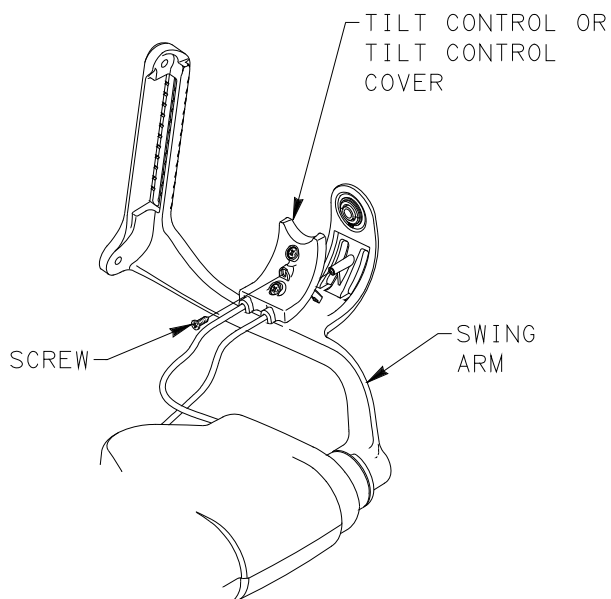

FIGURE 10
6. USING #2 PHILLIPS HEAD SCREWDRIVER, REMOVE AND SET ASIDE SCREW FASTENING TILT CONTROL OR TILT CONTROL COVER (BASIC TILT OPTION) TO SWING ARM. REMOVE TILT CONTROL AND LET HANG. IF CHAIR WAS EQUIPPED WITH BASIC TILT OPTION, SET TILT CONTROL COVER ASIDE. SEE FIGURE 10.
14. INSTALL TILT CONTROL ONTO SWING ARM AND SECURE WITH SCREW. IF CHAIR IS EQUIPPED WITH BASIC TILT, INSTALL TILT CONTROL COVER AND PROCEED TO STEP 16. SEE FIGURE 10.
6. USING #2 PHILLIPS HEAD SCREWDRIVER REMOVE AND SET ASIDE (2) SCREWS AND COVER SECURING PNEUMATIC CONTROL. REMOVE PNEUMATIC CONTROL AND LET HANG. SEE FIGURE 10.
13. INSTALL PNEUMATIC CONTROL TO SWING ARM. WHILE KEEPING HAND PRESSURE ON PNEUMATIC CONTROL ASSEMBLY INSTALL COVER AND SECURE WITH (2) SCREWS. SEE FIGURE 10.